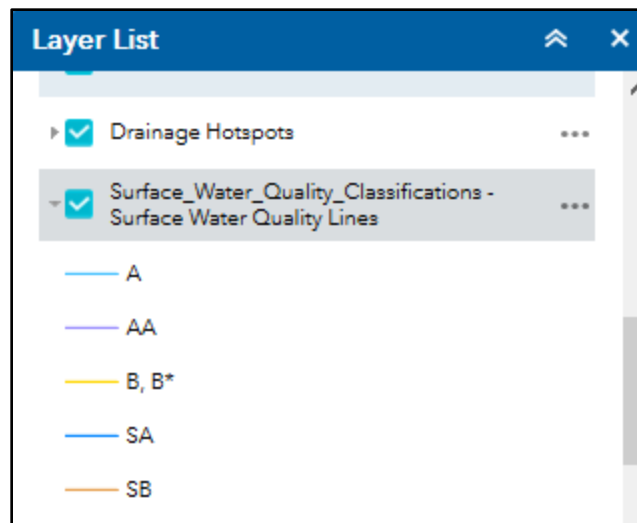

Figure 53. Surface Water Quality Classification Reference Layer.
- If doing IDDE, follow the flow charts in Appendix B for dry or wet weather flow. Collect the appropriate samples based on the water quality classification. Use the reference layer in the Stormwater Map titled "Surface_Water_Quality_Classifications – Surface Water Quality Lines" (Figure 53, below).